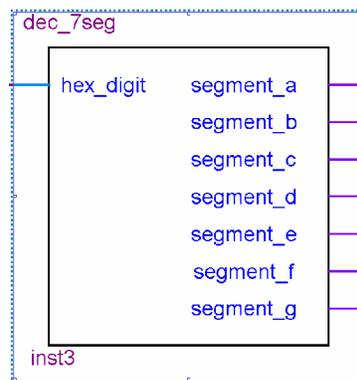

Figure 3: Image of dec_7seg block.
- 9) The logic values output from the dec_7seg are INVERTED logic values from what would really be displayed on the seven-segment display on the DE2 board. Therefore, if output “a1” in your vector waveform file gives a logic value 1, the seven segment display would actually turn “a” off from figure 3. Using the output of your vector waveform file, make sure that for any given sum of two numbers, the outputs from dec_7seg will display the correct value on a seven-segment display. Again, the logic values coming from the dec_7seg blocks are INVERTED from what will actually appear on the DE2 board.
As you can see in figure 3, each block represents one full-adder. The full-adder to the far right takes a total of three inputs; two for adding and one for a carry-in. It will then have two outputs. These outputs are labeled “sum” and “carry”. The “sum” output will be the value of the first bit of our result, while the carry output will be driven to the carry input in the full-adder to its left. This process repeats for all four full-adders. As you can see, since there is a final carry (labeled $C(4)$), the resulting sum can be up to 5-bits long.
- 2) Design the ripple-carry adder shown in figure 3. As a tip, you can use the “create symbol file for current file” option for block diagram files, not just VHDL files.